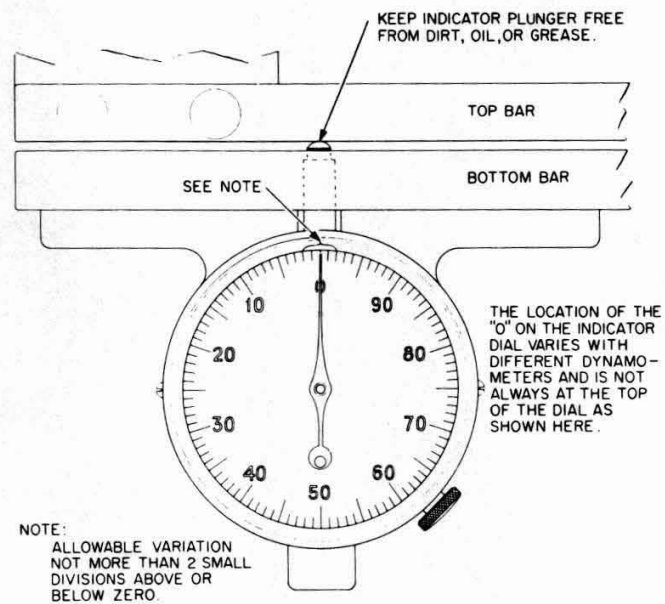

Fig. 2—B Strand Dynamometer Zero Reading
- (1) Place the dynamometer strand hooks.
- (2) With the dynamometer hanging from the strand and the cam handle in a horizontal position, the dial pointer should be within two small division marks above or below zero, as shown in Fig. 2.
- (3) If the pointer is more than two small division marks above or below zero, move the cam handle between the proper handle position and the horizontal position several times.
- (4) If the pointer still remains more than two small division marks from zero, check for and remove any dirt or other substance between the indicator plunger and the top bar. Recheck the zero reading.
- (5) If after performing (3) and (4), the pointer remains more than two small division marks from zero, do not use the dynamometer.